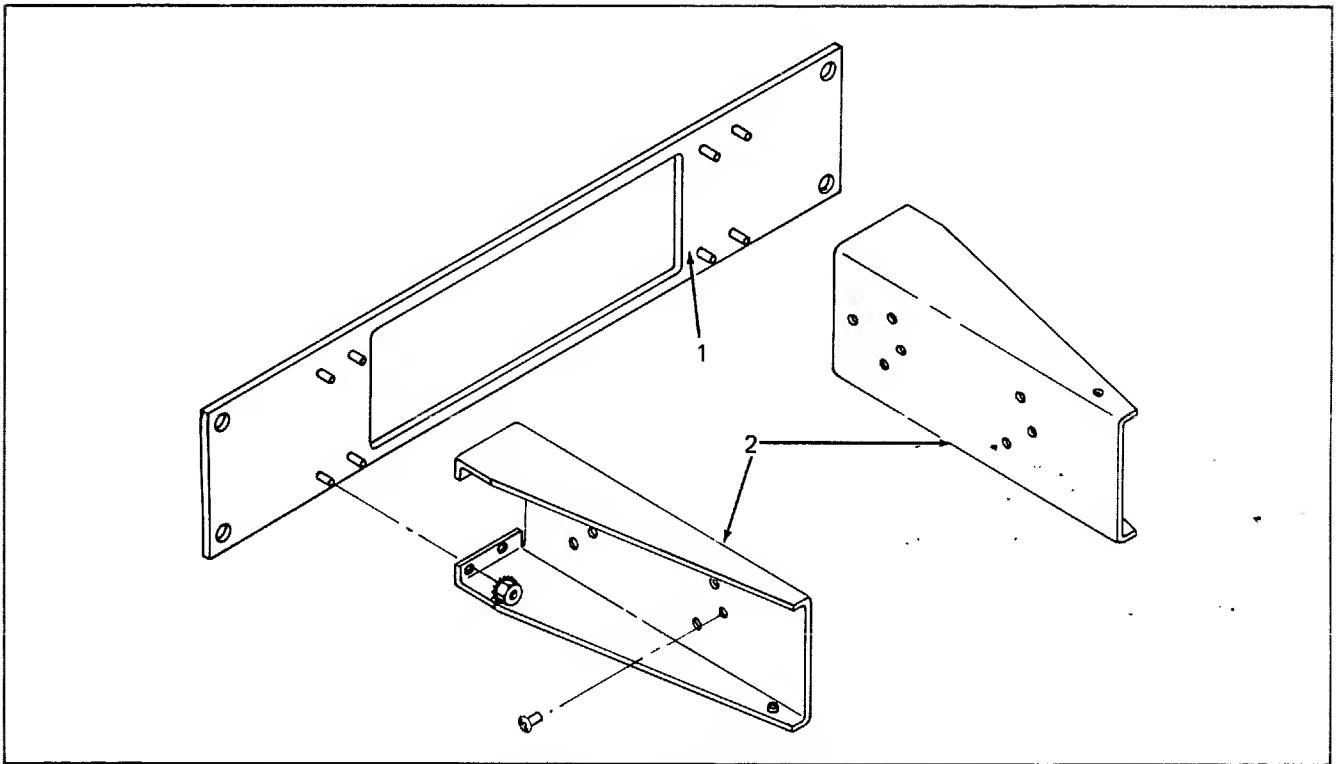

Figure 600-1. Rack Mounting Kit
- c. Fasten side brackets (2) to the 1953A using six 8-32 x 1/2" machine screws. See Figure 600-1.
- d. Secure the front panel plate (1) to the brackets. Use eight 6-32 nuts supplied with kit.